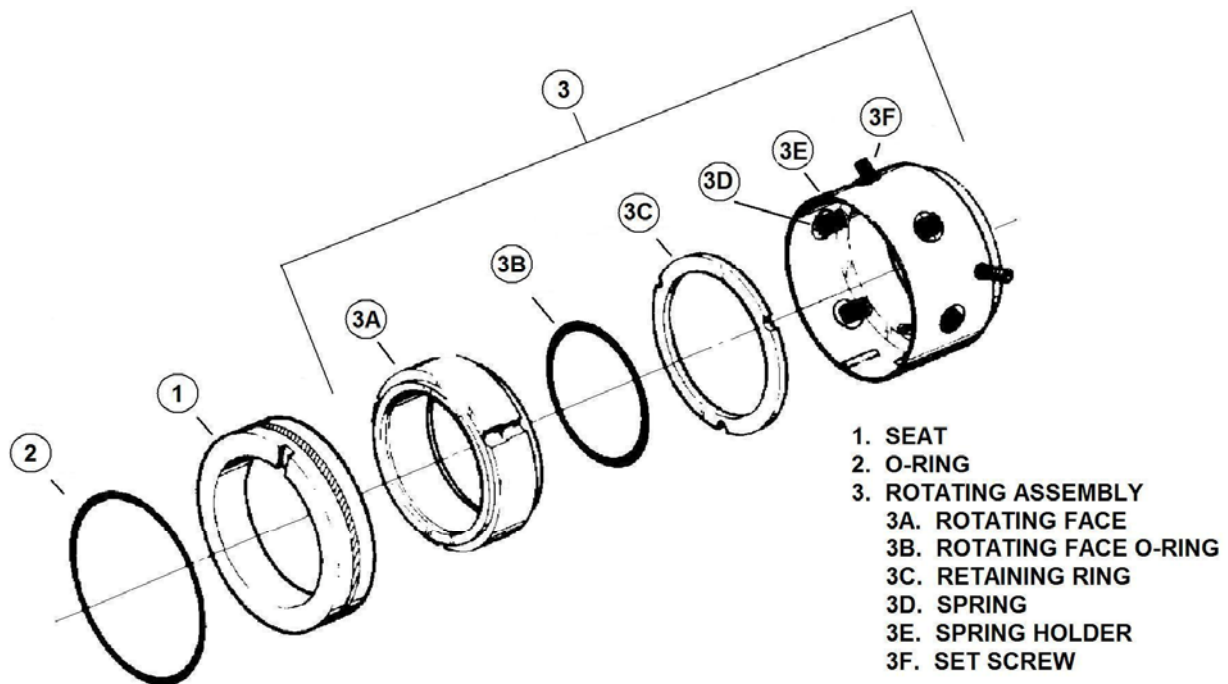

Figure 3. Mechanical Seal Drawing
The GLH8L-462 series pump is equipped with a positive drive mechanical seal. This is a balanced mechanical seal with a carbide rotating face and a carbide stationary face. Refer to mechanical seal drawing, figure 3, for construction.
10. Pull power rotor (22) assembly forward from pump to expose mechanical seal (27) assembly which is mounted on seal sleeve (26).
11. Remove inner spacer (29) and outer spacer (30).
12. Remove seal sleeve (26) from power rotor (22) shaft. Removal of seal sleeve (26) will also remove mechanical seal (27), seat adapter (63), gasket (65), and spiral ring (28).
13. Remove spiral ring (28) from groove of seal sleeve (26).
14. Remove seat adapter (63) with gasket (65). Remove mechanical seal stationary seat (1, figure 3) with O-ring (2, figure 3) from seal sleeve (26).
15. Loosen setscrew (3E, figure 3) from seal spring holder (3D, figure 3) and slide mechanical seal rotating assembly (3, figure 3) from seal sleeve (26).
16. Remove O-ring (69 or 25) from internal groove of seal sleeve (26).
17. Inspect power rotor (22) shaft and seal sleeve (26) and remove any nicks or burrs which are present. Polish power rotor shaft to remove any rust or oxidants that may be present under seal sleeve. The manufacturer recommends replacement of ball bearing (31), mechanical seal (27), gasket (65), and O-ring (69 or 25) when these parts are disturbed from their original installed position. All parts should be coated with light lubricating oil to assist in assembly.
18. Install O-ring (69 or 25) in internal groove of seal sleeve (26).
19. Install rotating assembly (3, figure 3) of mechanical seal (27) on seal sleeve (26), position against shoulder of seal sleeve (26). Install and tighten setscrew (3E, figure 3).
20. Install stationary insert (1, figure 3) and O-ring (2, figure 3) into seal seat adapter (63), ensuring that lock pin engages slot of stationary seat. Install gasket (65) in seat adapter (63). Install assembled seat adapter subassembly (63) on seal sleeve (26) next to installed mechanical seal rotating assembly, using caution to avoid damage to stationary seat and O-ring (1 and 2, figure 3).
21. Compress mechanical seal enough to expose spiral ring groove and install spiral ring (28) in seal sleeve (26) to lock mechanical seal (27) assembly into place.
22. Install assembled seal sleeve (26) on power rotor (22) shaft until it rests against balance piston (24). Use caution when installing seal sleeve (26) to avoid damage to installed O-ring (69 or 25).
23. Install inner spacer (29) and outer spacer (30) on power rotor (22) shaft. Align outer spacer (30) so openings correspond to drain hole and slots in end cover (13).
24. Slide ball bearing (31) on power rotor (22) shaft.